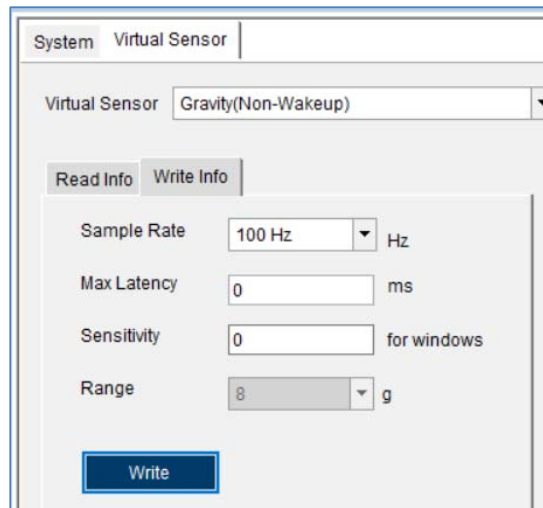

Figure 5 Enable a virtual sensor
- Next step is enable one or multiple virtual sensors by clicking the “Virtual Sensor” tab on the top right corner of DD2.1 SW. For example, from the “Virtual Sensor” dropdown list select “Gravity (Non-Wakeup)” and then click “Write Info” tab. Select 100Hz from the “Sample Rate” dropdown list and then click “Write” button as shown in Figure 5.